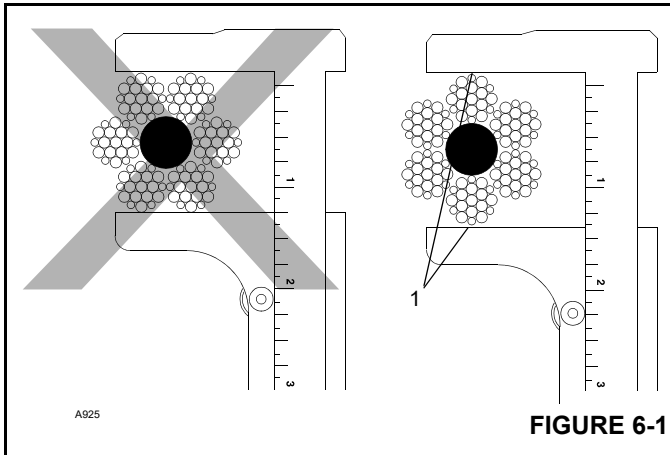

FIGURE 6-1
- Measure the rope's diameter across crowns (1) of the strands when determining if rope has become damaged (Figure 6-1).